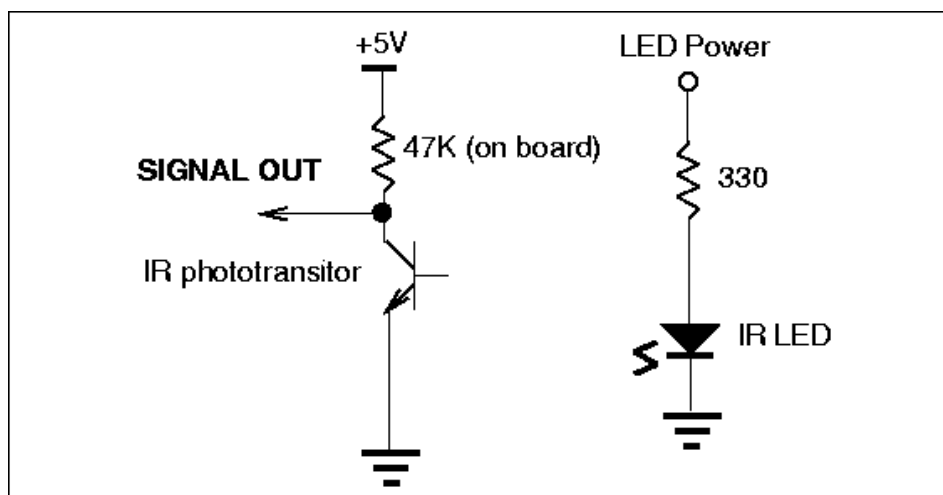

Figure B-2.
- Wire the circuit in Figure B-2 on your protoboard. Actually, we are only going to use this circuit as a guide, since we will be changing many of the component values. Each circuit has an active device (LED or photodiode/phototransistor) and a resistor. For LED power, connect to the function generator (W1) and set it up as a square pulse with amplitude 2.5V, offset 2.5V and frequency 10Hz. For the +5V power, use the Analog Discovery DC power supply (Red Wire). Use the scope to monitor the operation of both circuits. In the parts kit, the IR phototransistor is called an IR transistor. There are two devices that look like LEDs but their plastic lenses are black. In the present parts kit, the transistor is the smaller of the two devices. If you use different light sensors, be sure that you check their spec sheets to be sure that you have the correct one. In the Analog Devices ADALP2000 Parts Kit (nearly the same as the Digilent Kit), the two devices look almost identical. The phototransistor has shorter leads, which is often a way that manufacturers identify them. The IR LED has its correct name and is the only device that looks like an LED with a clear lens in your kit. For the transmitter (LED circuit), use a 2.2kΩ resistor rather than the 330Ω resistor shown. Either will work, but the IR LED does not need a lot of current to work in a satisfactory manner and you will get a more realistic sense of how the circuit can perform.